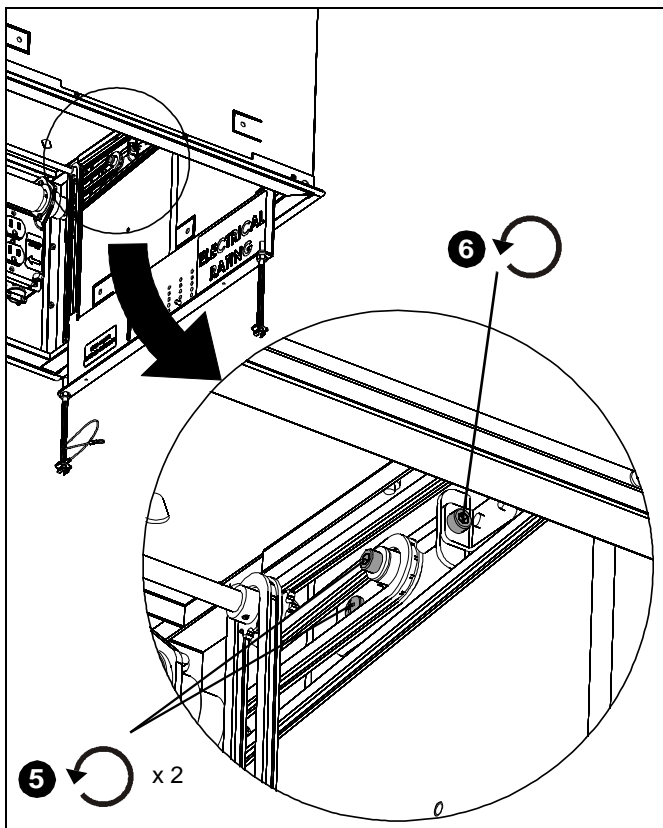

Figure 1
5. Loosen, **BUT DO NOT REMOVE**, two screws from chain tensioning area. (See Figure 1)
6. Fully loosen one screw to allow plenty of slack in the chain. (See Figure 1)